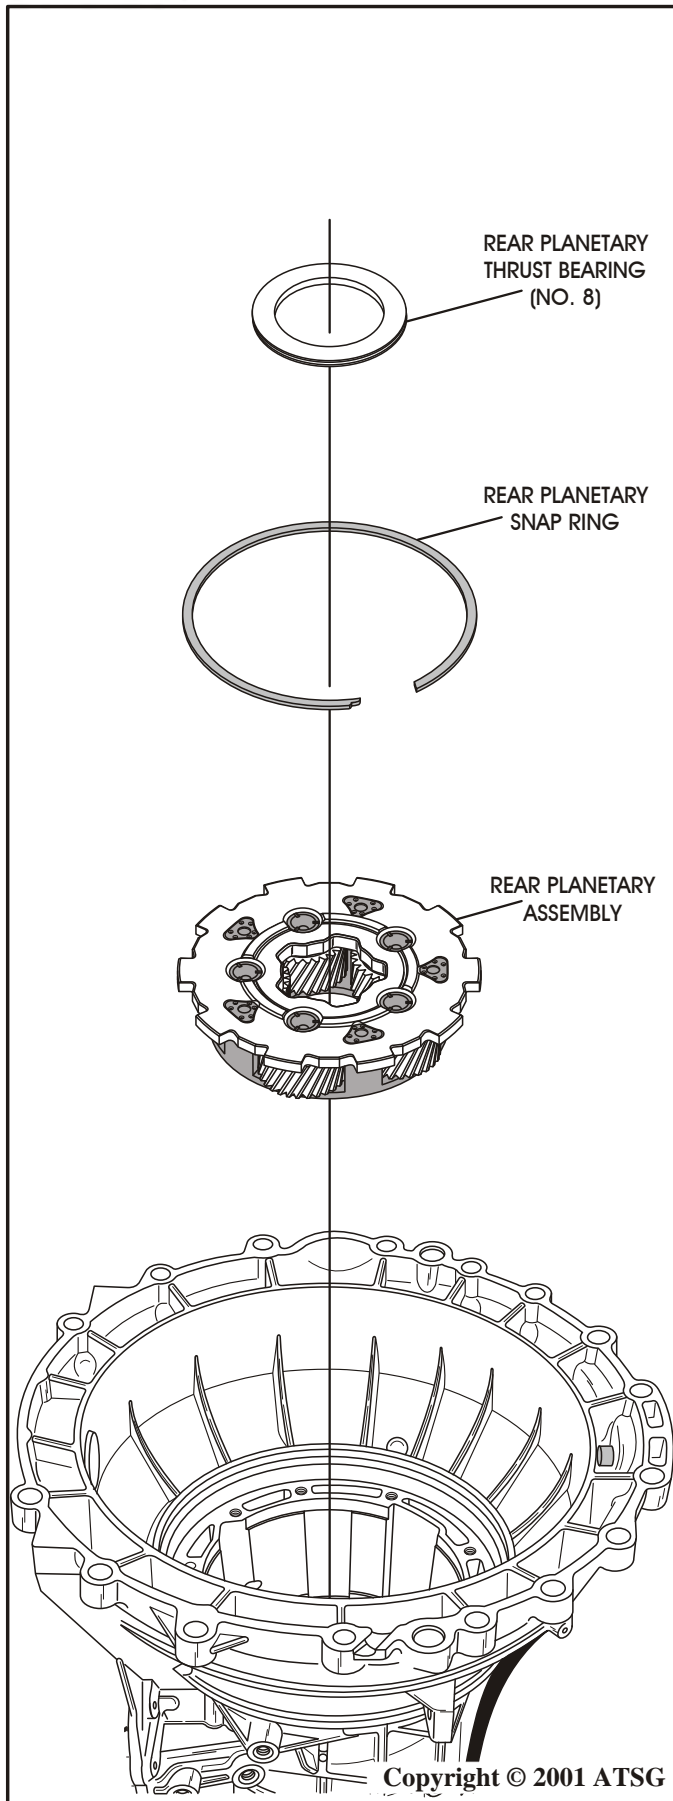

Figure 51
62. Remove and tag for I.D. the rear planetary thrust bearing (No. 8), as shown in Figure 51.
63. Remove the rear planetary retaining snap ring from reverse drum, as shown in Figure 51.
64. Remove the rear planetary carrier from the reverse drum, as shown in Figure 51.